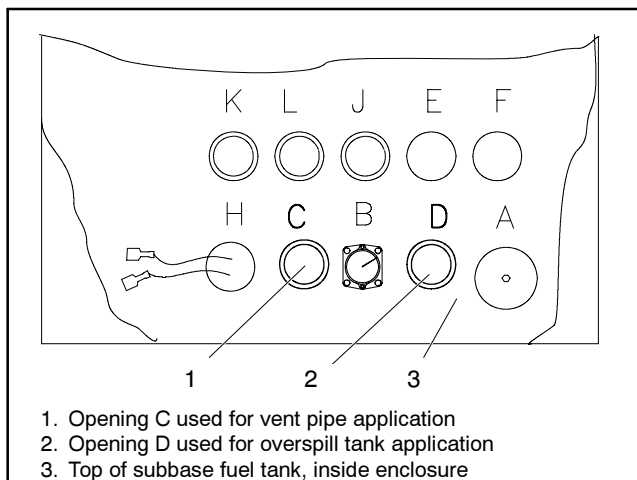
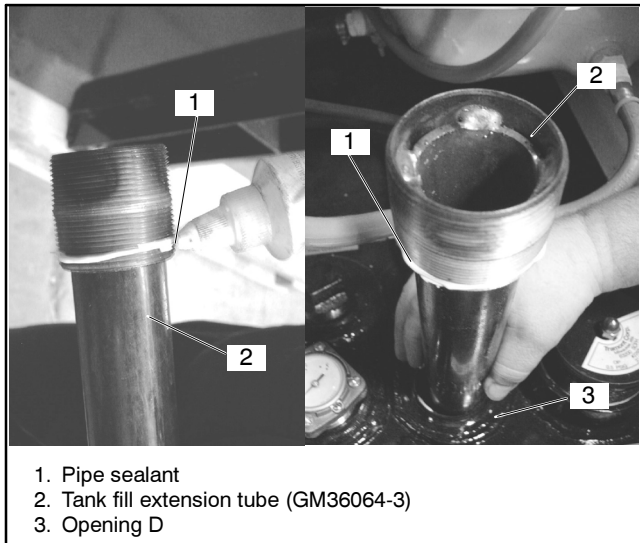

Figure 2 Fittings A thru F for 30REOZJB Model
Figure 4 Overspill Vent Pipe Installation
1.2.4 Locate fittings A thru F inside the enclosure located on top of the subbase fuel tank. See Figure 2.
1.2.5 Remove fittings from openings C and D if present. Insert fuel gauge into opening B, if required. See Figure 2.
Note: Opening C will be used for the vent pipe application. Opening D will be used for the overspill tank application. See Figure 2.
- 2.1.1 Apply pipe sealant to bottom threads on tank fill extension tube GM36064-3. See Figure 4.
- 2.1.2 Insert tank fill extension tube GM36064-3 into opening D. Tighten securely. See Figure 2 and Figure 4.
Note: Ensure the elbow is 90° from tank fill extension tube GM36064-3. See Figure 4.
- 2.2.1 Locate opening C, inside enclosure located on top of the subbase fuel tank. See Figure 2.